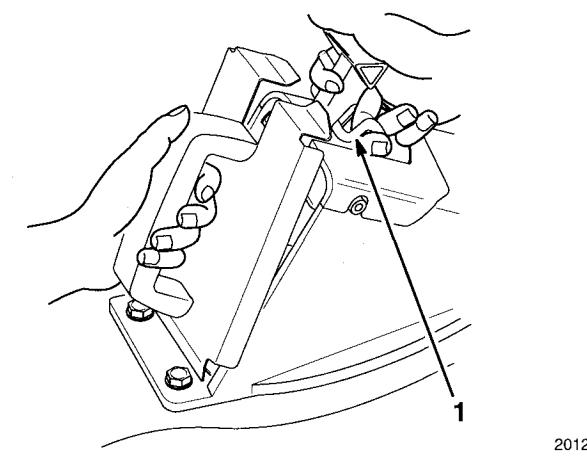
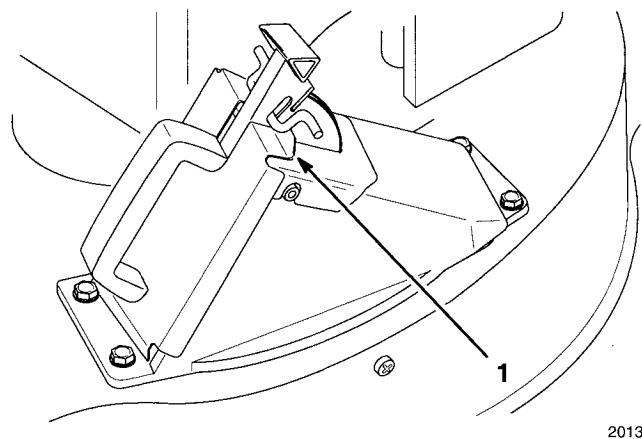

Figure 21
Figure 22
2. Insert the plug into the discharge tunnel opening and fit the lower section into the opening first (Fig. 21).
3. Lift door latch on door handle (Fig. 21). Push the top of the plug all the way in while moving the door handle rearward. Release the door latch, allowing it to hook over tabs on plug (Fig. 22).